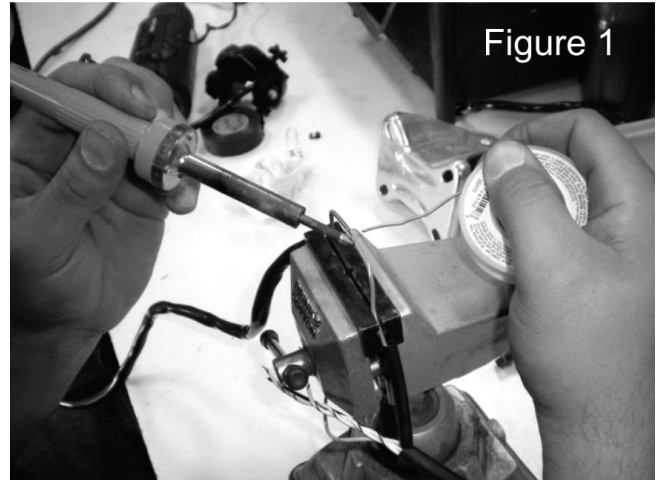

Figure 1
5. Match up the wire colors on each side with the extension wires in the kit and solder them to their mates (figure 1). Be sure to match the twisted pair of wires (white-black/white-red) to the twisted pair in the extension harness.